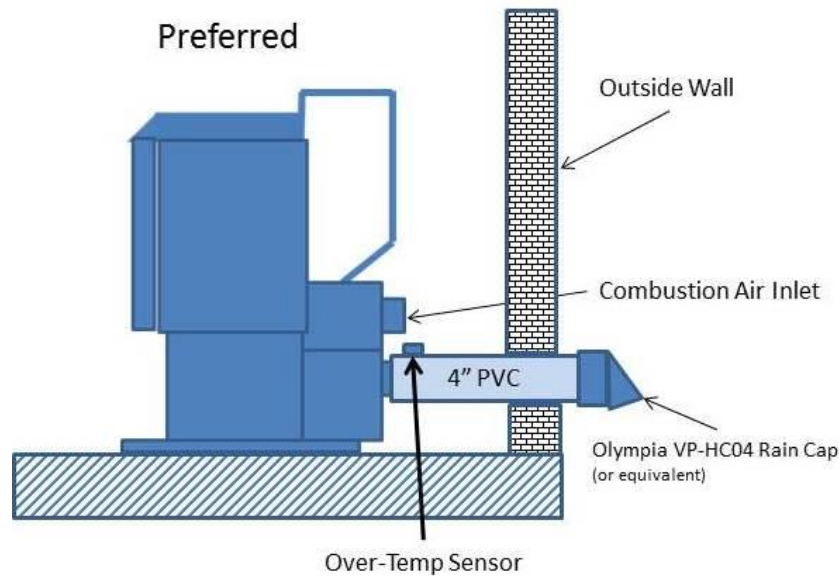

FIGURE 2 Direct Vent Preferred Piping Configuration
5. See Figure 2 for consideration of suggested piping layout. The rain cap outlet should be at least 8" from the exterior siding or other surface of the outside wall.